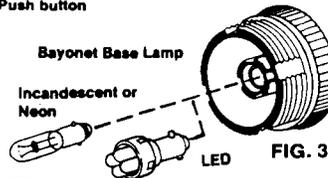

FIG. 3
- To install new lamp: Insert in socket, push inward and turn clockwise (see Figure 3)